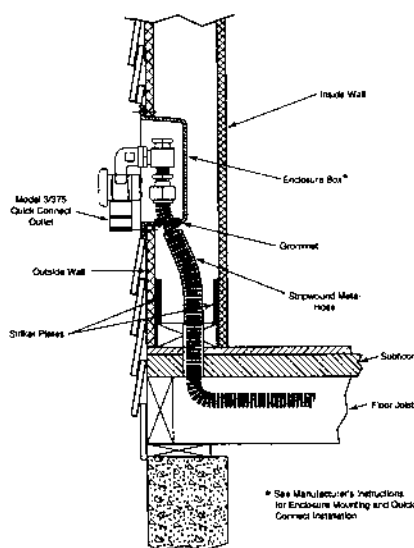

Figure: 4-37
1. Movable grills shall be connected using an approved outdoor appliance connector which shall be attached to the flexible piping system at either a termination mount fitting, a transition to a steel nipple, or a quick connect device such as the M. B. Sturgis Model 3/375 shown in Figure: 4-37: The quick-connect outlet shall be installed in accordance with manufacturer's instructions.